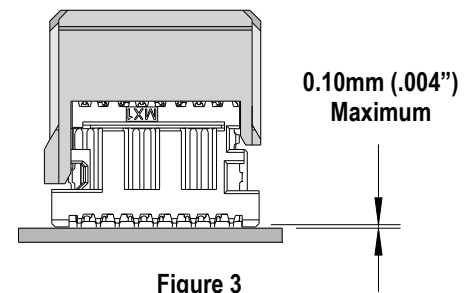

Figure 3
3. Using the application tool and an appropriate press, seat the Signal module until there is less than 0.10mm (.004 in.) clearance between the bottom of the plastic housing and the surface of the PCB. See Figure 3.